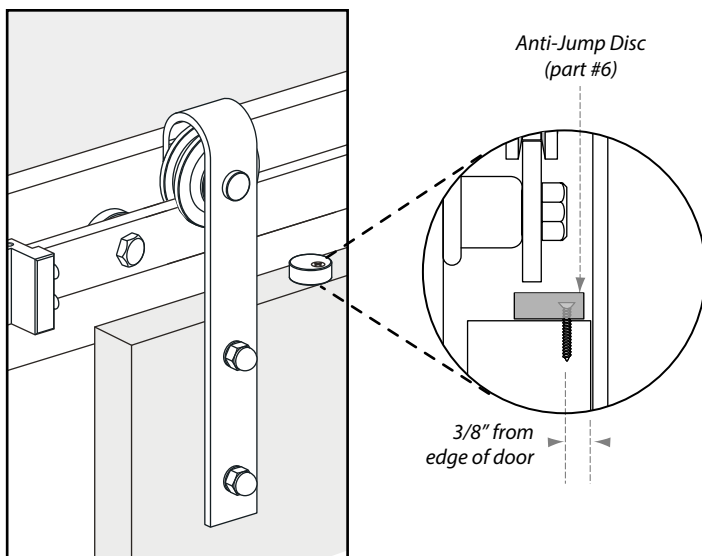

Figure 10
5. Once clearances and proper door operation are established, install anti-jump discs as shown 6" to 8" from edge of door (figure 10).